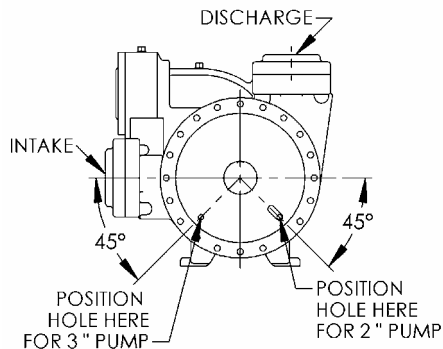
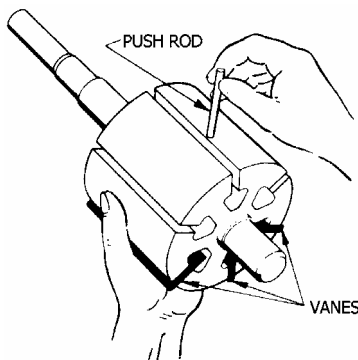

Figure 9 – Disc Relief Hole Location
Figure 10 – Pushrod Installation
3. Place the disc (71) against the liner (41) with the seal cavity outward and disc relief hole located as shown in Figure 9.
4. Without installing the head O-ring or mechanical seal components, temporarily attach the outboard head (20) and bearing (24) to the casing (12). Install and handtighten two head capscrews (21), 180 degrees apart. This head will be used to hold and align the rotor and shaft (13) while the inboard side of the pump is assembled.
5. Remove the vanes (14) and push rods (77) from the rotor and shaft assembly (13). Inspect for wear and damage, and replace as follows:
- a. Partially install the non-driven end of the rotor and shaft (13) into the open side of the pump casing (12).
- b. Leave part of the rotor outside of the casing (12) so that the bottom vanes (14) can be installed and held in place as the push rods (77) are installed in the push rod holes of the rotor. Insert the new vanes into the rotor slots with the rounded edges outward, and the vane relief grooves facing TOWARDS the direction of rotation. See Figure 10.
- c. After the bottom vanes and push rods are installed, insert the rotor and shaft (13) fully into the casing (12).
- d. Install the remaining vanes (14) into the top positions of the rotor.
6. Install the disc (71) on the inboard side of the pump with the seal cavity facing outward and the disc relief hole located as shown in Figure 9.